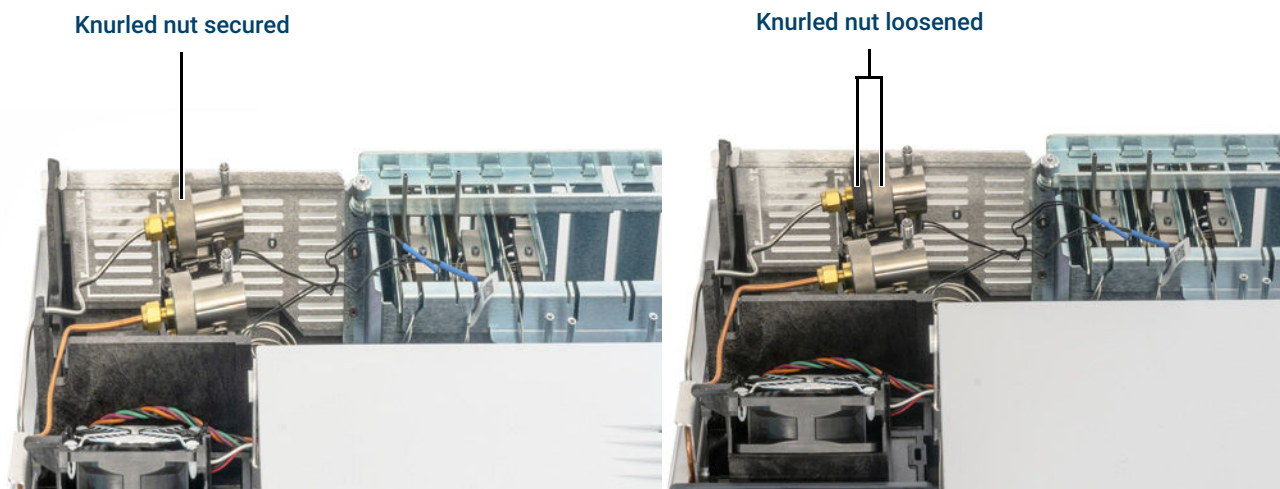

Figure 36. Loosen knurled nut
4. Completely loosen the knurled nut that secures the split vent trap in place as shown in Figure 36.